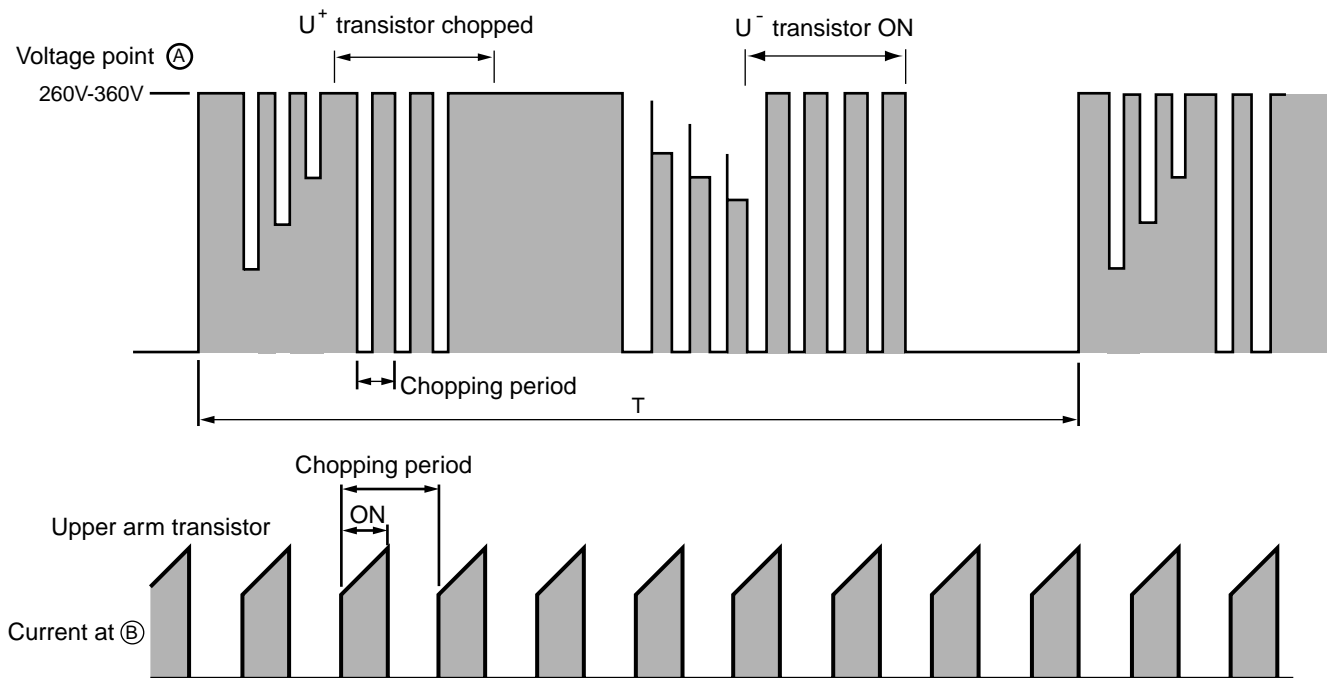

Fig. 3-3 Voltage waveform at each point
- Fig. 3-3 shows voltage/current waveform at each point shown in Figs. 3-1 and 3-4. First half of upper arm is chopper, second half is ON, and first half of lower arm is chopper, second half is ON.
- Since current flows at point (B) only when U^+ transistor is ON, the current waveform at point (B) becomes intermittent waveform as shown in Fig. 3-3. Since current at point (B) is approximately proportional to the input current of the air conditioner, input current is controlled by using DC current (I_d) detection resistor.